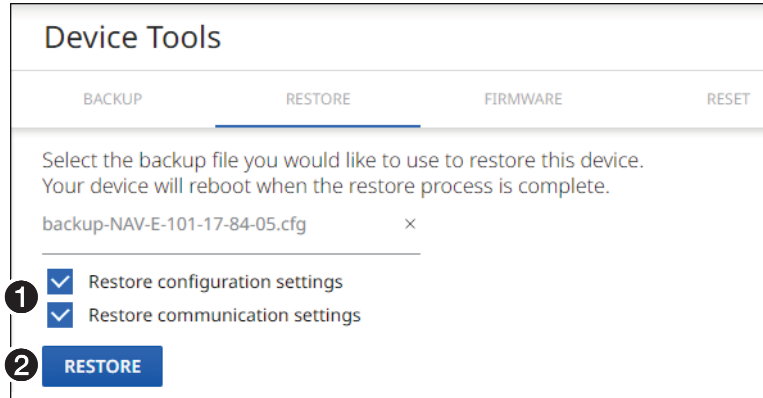

Figure 30. Tools — Restore Function, Steps 5 and 6
4. Click **Open** (❷). The Tools page returns to the top (see figure 30 on page 35).
5. Select (click) the settings to restore (**Configuration**, **Communication**, or both; see figure 30, ❶).